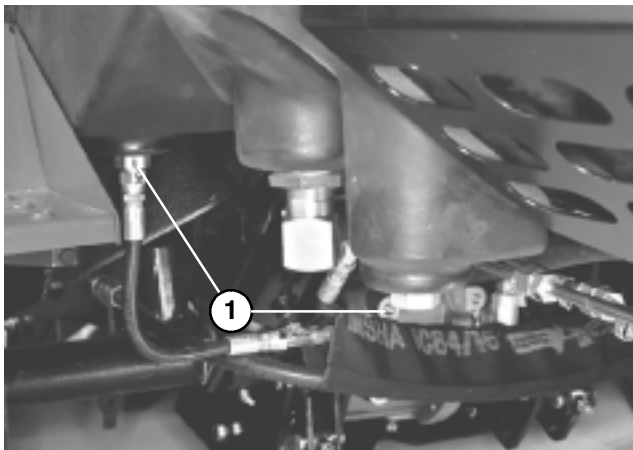

Figure 46
CHANGING HYDRAULIC OIL (Fig. 46 & 47)
2. Remove drain plug from rear of reservoir and hydraulic line from front of reservoir (Fig. 46) and let hydraulic oil flow into drain pan. Reinstall and tighten plug and line when hydraulic oil stops draining.